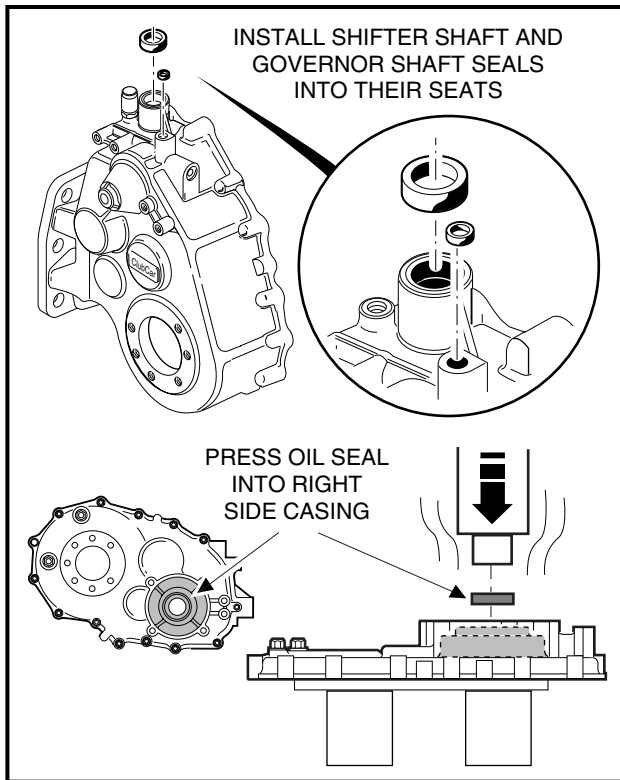

FIGURE 10-68
2. Press two new oil seals (13 and 22) (**Figure 10-36, Page 48**) into the left (driver) side casing, and one new oil seal (55) (**Figure 10-43, Page 53**) into the right (passenger) side casing (**See Figure 10-68, Page 62**).